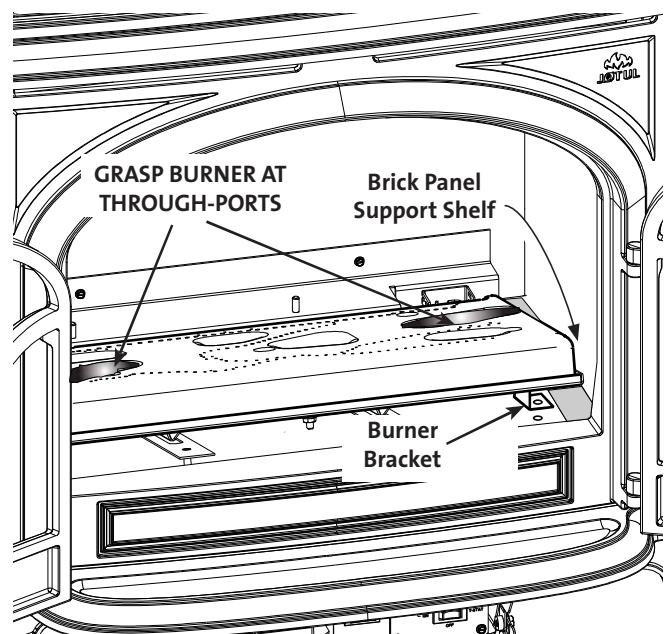

Figure 27. Pull the Burner assembly forward and up to disengage it from firebox.
5. Lift the Brick Panel Support Shelves from the firebox floor to access and remove two #8x 1/2" sheet metal screws that secure the Burner Brackets to the floor. See figs. 27 and 77.
6. Grasp the burner at the large left and right through-ports and pull the assembly up and forward to disengage it from the burner injectors. Tilt the assembly to fit through the door opening. See fig. 27.